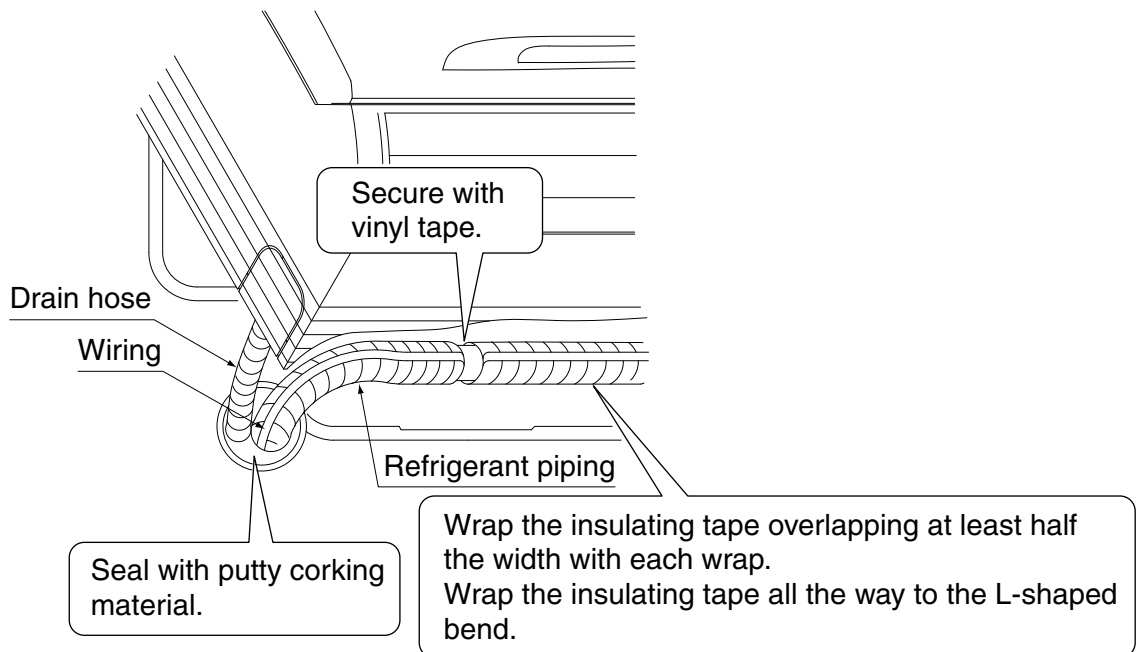

Fig. 11
(4) Pass wiring the units, earth wiring, and remote controller wiring through the wiring guide in through the back of the indoor unit and to the front.
(5) Connect the piping. (Refer to “6. REFRIGERANT PIPING WORK” and Fig. 11)